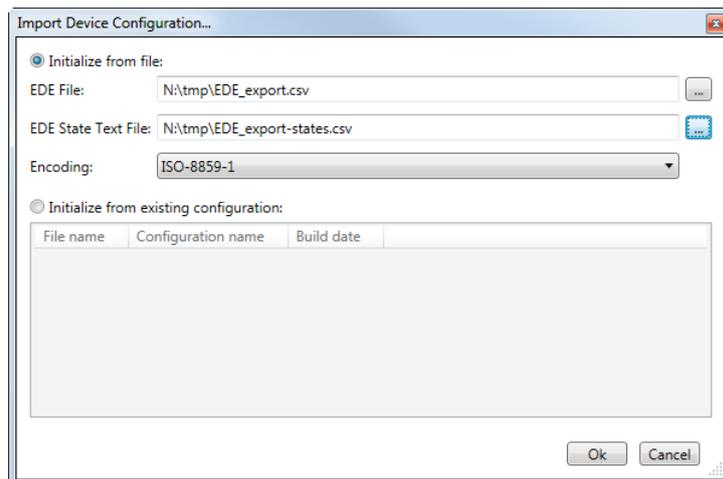

Figure 62: Import BACnet Device Configuration
- **Import device configuration:** Choose this option if the device is offline. You can either import an EDE file and the corresponding state text file or assign the configuration of a different device (see Figure 62). The latter option is useful if you have multiple devices with identical configuration.